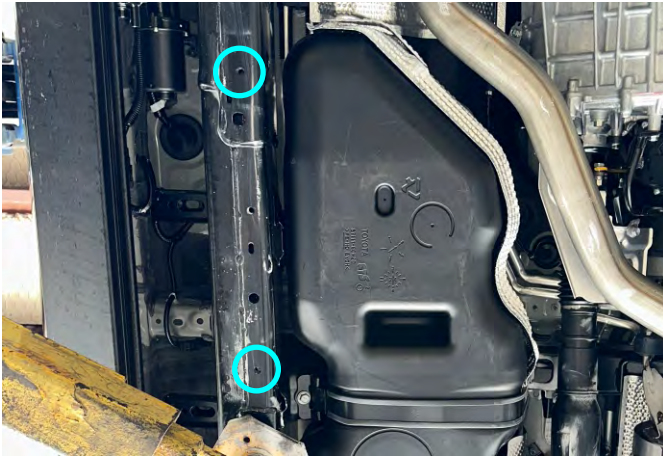

Fig. 5
3. Loosely insert supplied bolts M8x25 with washers M8 (items A, B) as shown in fig. 5.